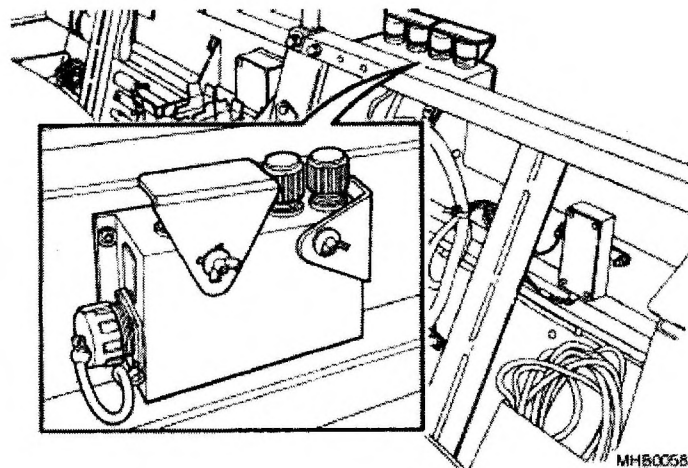

Fig 3 Auxiliary terminals
- 6 The terminal box (Fig 3) is attached to the panel behind the left hand seat.
- 7 Auxiliary terminals are provided for operating the 24 Volt (V) equipment while the engine is running. The socket on the left hand side is an alternative to the terminals for carrying a charge to the radio from the batteries stored under the table.